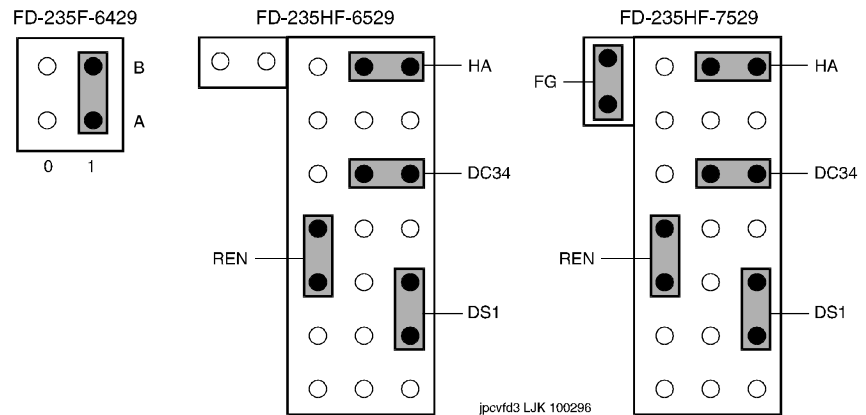
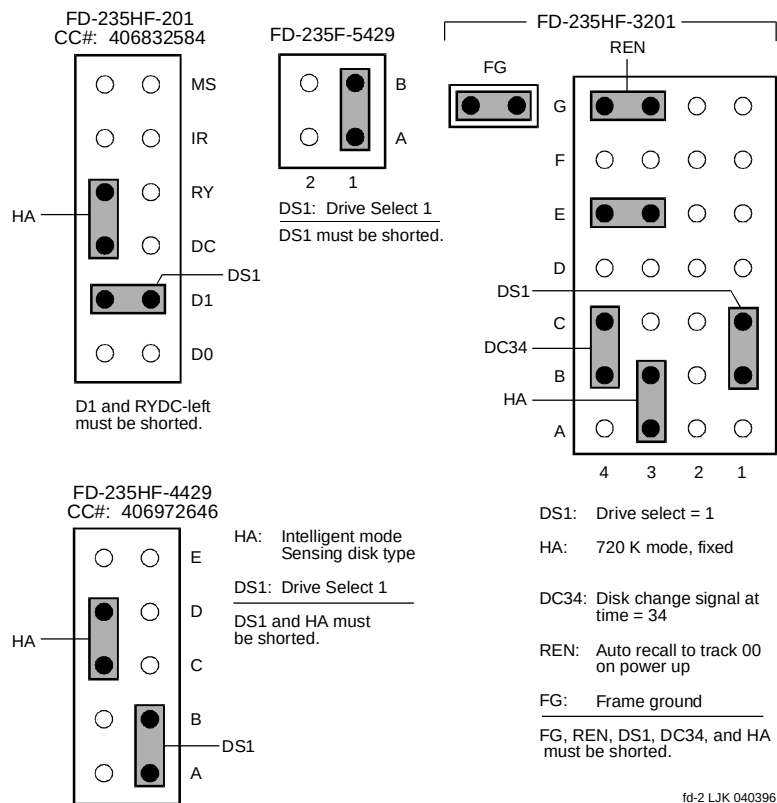

Figure 7-12. Diskette Drive Jumper Connections (6429, 6529, and 7529)
Figure 7-13. Diskette Drive Jumper Connections (201, 3201, 4429, and 5429)
3. Verify that the jumpers are set as shown in Figure 7-12 and Figure 7-13.